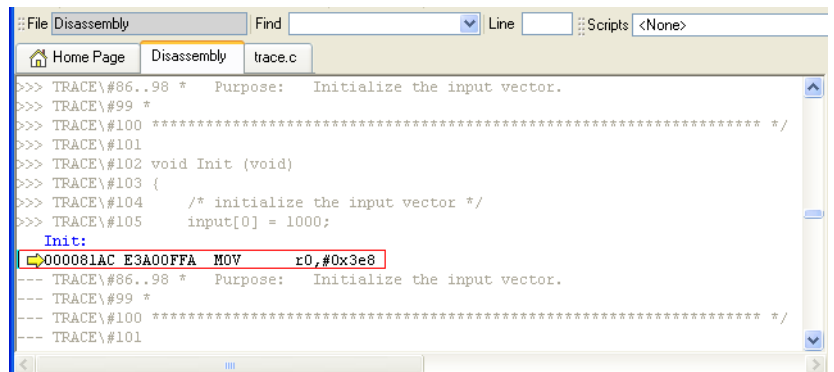

Figure 10-8 Execution stopped in Init() function
- Click the **Step** button to step to the next instruction. Observe that execution stops at the first address of the Init() function. Figure 10-8 shows an example: